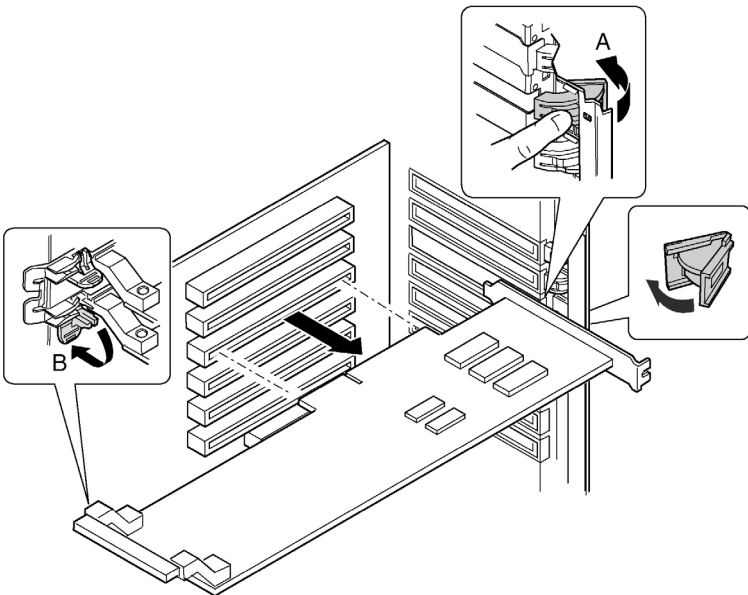

Figure 35 - Removing a hot-plug PCI add-in board
- 4 Release the latches on the front and rear retention mechanisms (Figure 35, A and B).